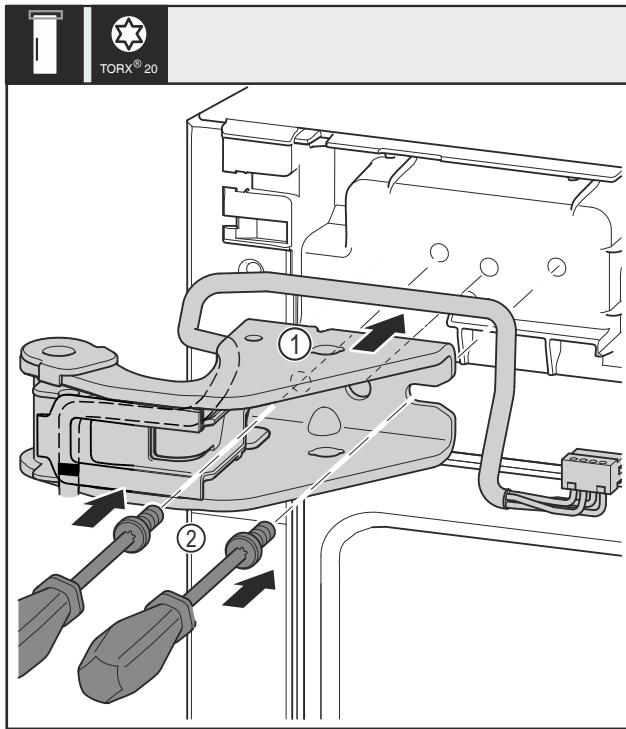

Fig. 31
- Place the top swap bearing block Fig. 31 (1).
- Use screwdriver to insert the screws Fig. 31 (2) and tighten them.